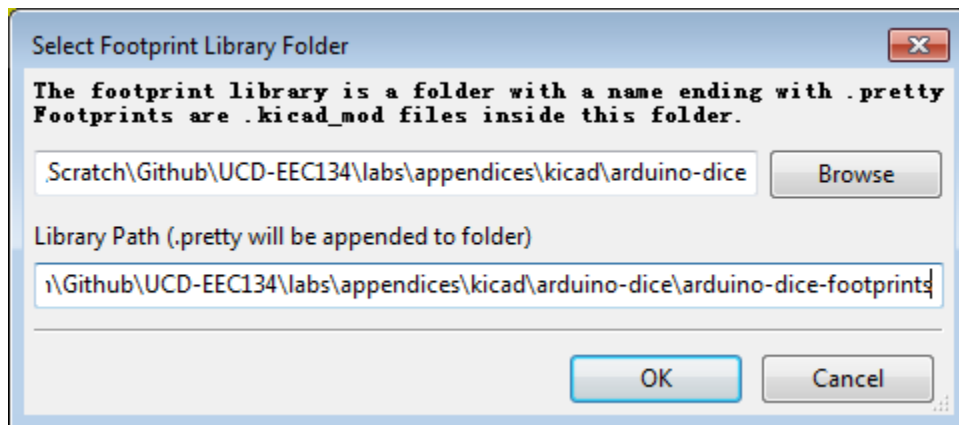
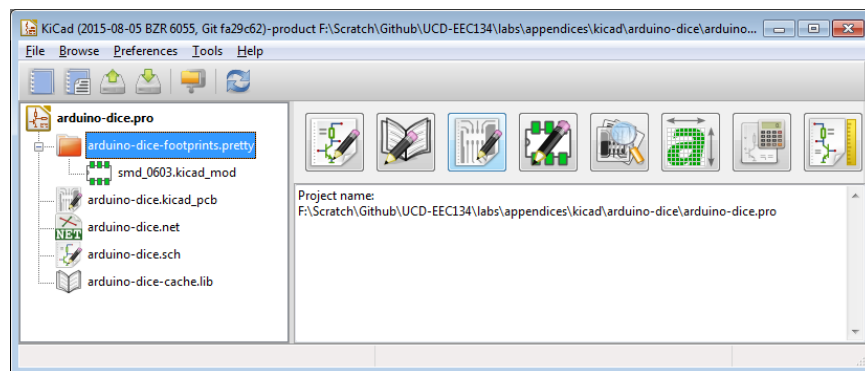

Figure 10: The “Select Footprint Library Folder” dialog box.
Figure 11: The new footprint library is now visible in the project tree.
10. We wish to create a new library to contain our newly created footprint. To do this, click the “Create new library and save current module” icon. Set the location and name of the library and click “OK”. The “Library Path” field should contain the full path to your desired library location. In this example, we will create a footprint library with the name “arduino-dice-footprints” (KiCad will automatically add the “.pretty” suffix) under the project folder “...\arduino-dice”. Fig. 10 shows the proper settings. At this point, a new folder named “arduino-dice-footprints.pretty” should appear in the project tree in the KiCad main window (Fig. 11). Click on the “+” sign will expand the library and show all the footprints in this library; in this case, we only have the “smd_0603” footprint.